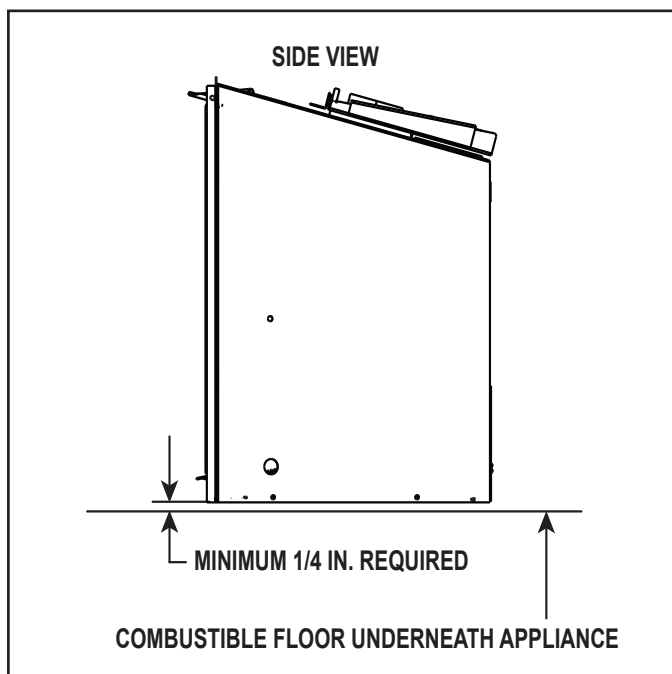

Figure 3.20 Solid Fuel Floor Clearance
- A minimum 1/4 inch gap from the bottom of the appliance to the metal floor of the solid fuel firebox is **REQUIRED**. See side view in Figure 3.20.
- Combustible flooring underneath the appliance is acceptable with a 1/4 inch gap. See Figure 3.20.